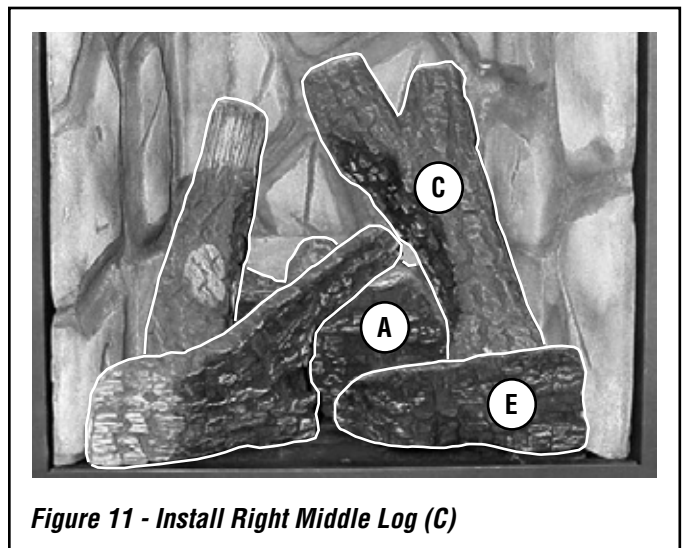

Figure 11 - Install Right Middle Log (C)
5. **Place the right middle log (C) as shown in Figure 11.** Position log C behind Log E and resting on the "flat" on Log A.